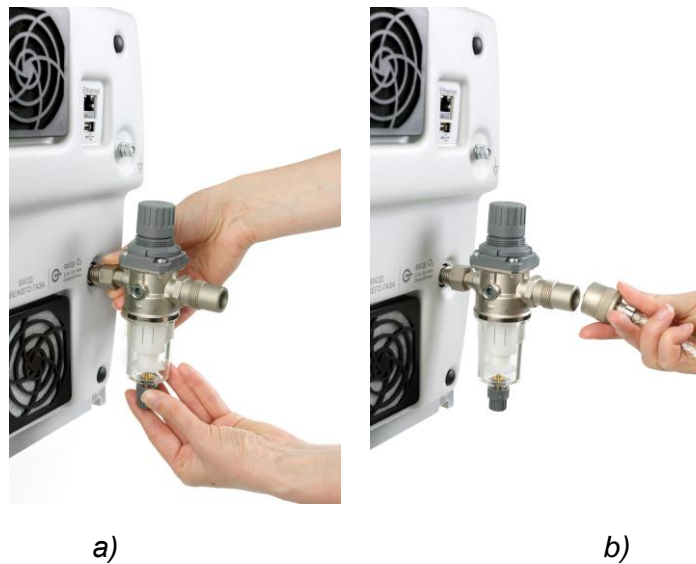

Figure 3.13 – Connecting the filter-regulator (a) and oxygen hose (b) to the device
- Connect the filter-regulator from the delivery kit to the “O₂” inlet on the rear panel of the electronic unit using the cap nut with the seal (see Figure 3.13 a).
- Connect the supplied oxygen hose with NIST connector to the filter-regulator on the rear panel of device. Insert NIST connector nipple into filter-regulator threaded inlet and secure by turning the nut as shown in Figure 3.13 b.